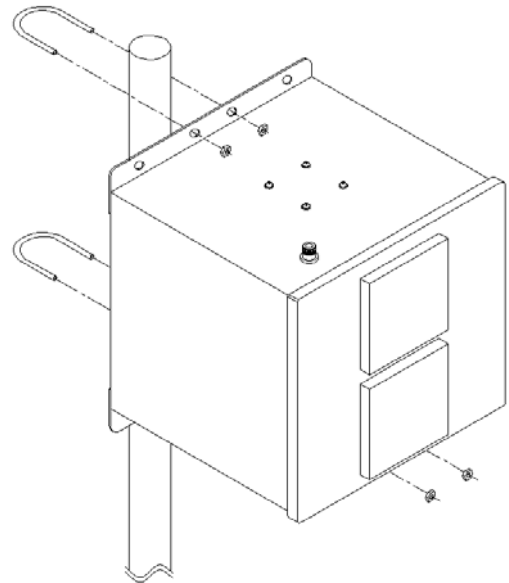

Figure 3 – Mounting on standard 2" pole.
Step 7 – The enclosure can be mounted to either a pole or a wall. To mount to a standard 2" diameter pole, install the two (2) U-Bolts so that the center of the U-Bolt goes around the pole and through the inner set of mounting holes on the enclosure as illustrated in *Figure 3*.